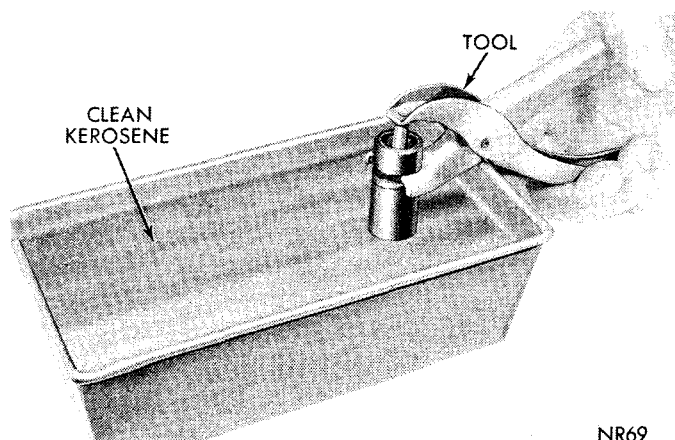

Fig. 19—Testing Tappet Using Tool C-3160
- (1) Fill a pan with clean kerosene.
- (2) Remove cap from plunger and plunger from tappet body.
- (3) Fill tappet body with kerosene and install plunger.
- (4) Unseat check valve with a brass rod to permit complete installation of plunger. Replace cap.
- (5) Hold tappet in an upright position and insert lower jaw of pliers, Tool C-3160, in the groove of tappet body (Fig. 19).
- (6) Engage jaw of pliers and top of tappet plunger. Test leakdown by compressing the pliers. If plunger collapses almost instantly as pressure is applied, disassemble tappet, clean and test again (Fig. 19).
- (7) If tappet still does not operate satisfactorily after cleaning, install a new tappet assembly.